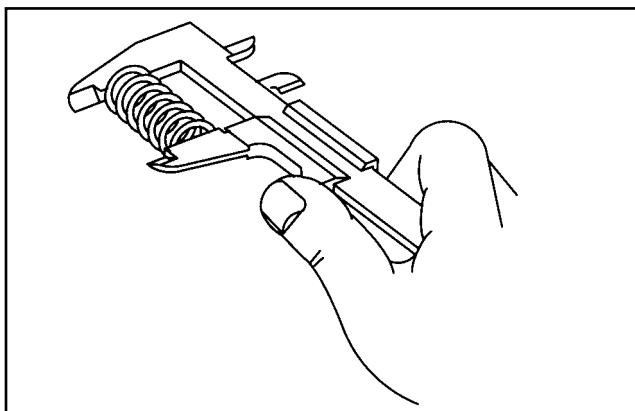

Figure 5-12. Check Valve Springs
5. Check valve springs for free length (Figure 5-12).